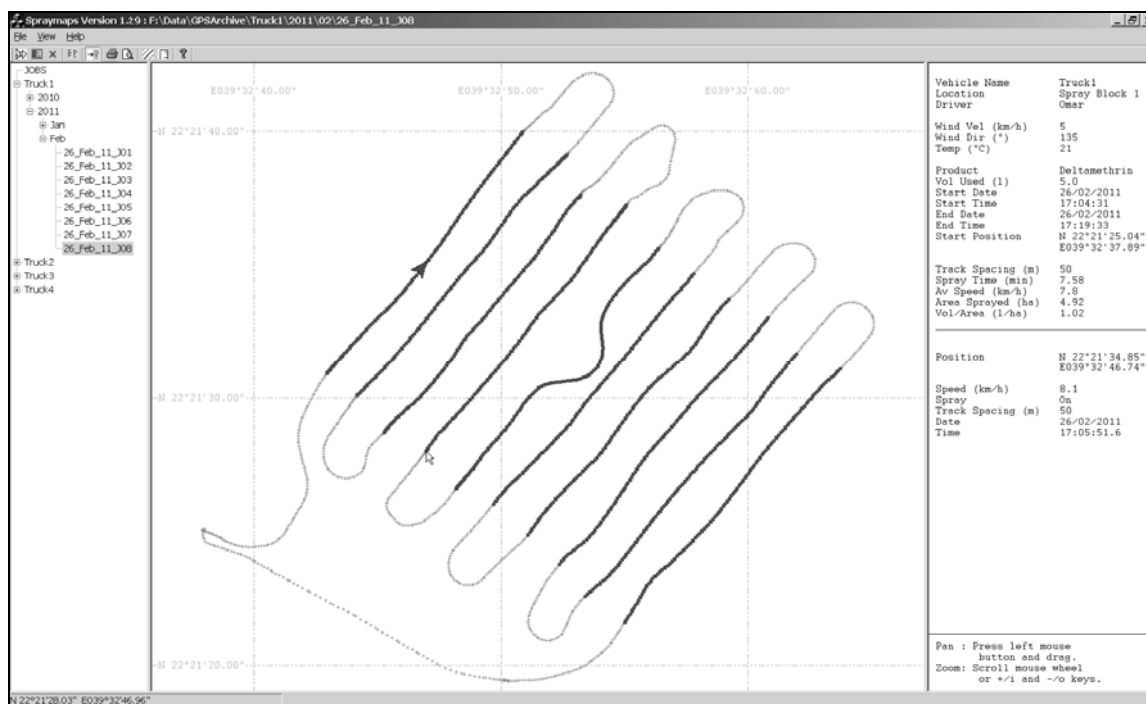

Fig. 15 – Main Program Window
1. If not already open, start the Spraymaps program by double-clicking on its icon on the desktop. The main program window is shown in Fig. 15.
The main program window is shown in Fig 15. By default, the window is divided into three panes: